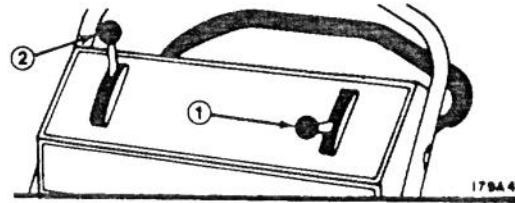

Figure 7
2. Move speed selector to N (NEUTRAL) (Model 20684). Move throttle control to CHOKE position (Fig. 7). Cover hole in center of Primer